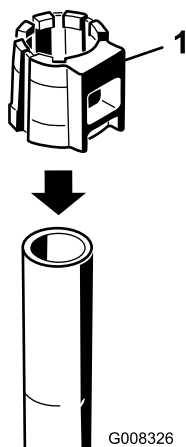

Figure 2
2. Insert a QuickChange sleeve onto the top of the tine until the top of the tine contacts the upper shoulder of the sleeve (Figure 2).